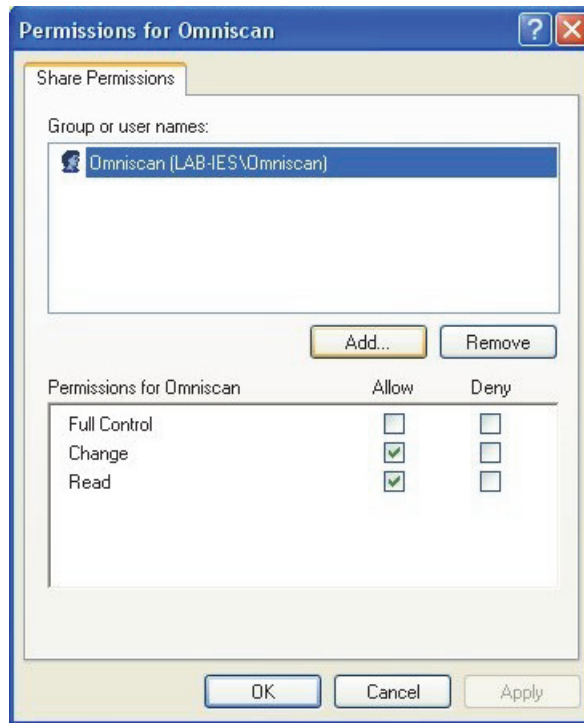

Figure 7-17 The Permissions for Omniscan dialog box (Windows XP)
11. Back in the **Permissions for Omniscan** dialog box, select the **Change** and **Read** check boxes in the **Allow** column, and then click **OK** (see Figure 7-17 on page 207).